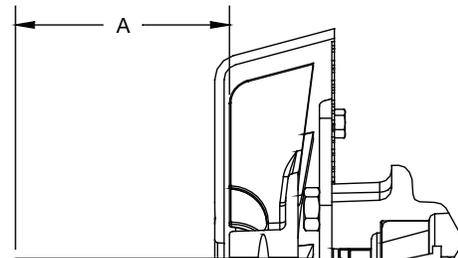

Figure 8 - Fan Blade Placement
- Referring to Figure 8, install tapered bushing (9) into bore of fan blade assembly (2) and loosely install the three set screws provided with fan. Snug set screws but do not tighten at this time.
- Slide fan assembly onto input shaft and install input shaft key. Note: Key is supplied with the TAll reducer. Locate fan blade edge distance "A" (Figure 8) from end of shaft per Table 6. Make sure fan assembly rotates without interference when input shaft is rotated.
- Referring to Figure 8, install fan guard back plate assembly (1) using the four bolts (4) provided. Note that the screen is mounted towards the reducer. Tighten to recommended torque in Table 5.
- Slide fan blade assembly (2) onto input shaft and install key and set screws (5). Note: Key is supplied with the TAll reducer. Position fan blade edge distance "A" (Figure 8) from end of shaft per Table 6. Make sure fan assembly rotates without interference when input shaft is rotated. Tighten the two fan blade set screws (5) securely.
- Install fan guard cover (3) with four bolts (6), lockwashers (7), and hex nuts (8). Tighten securely.
- Verify fan blade rotates freely and does not interfere with fan guard back plate (1) or fan guard cover (3). Adjust fan blade if necessary.